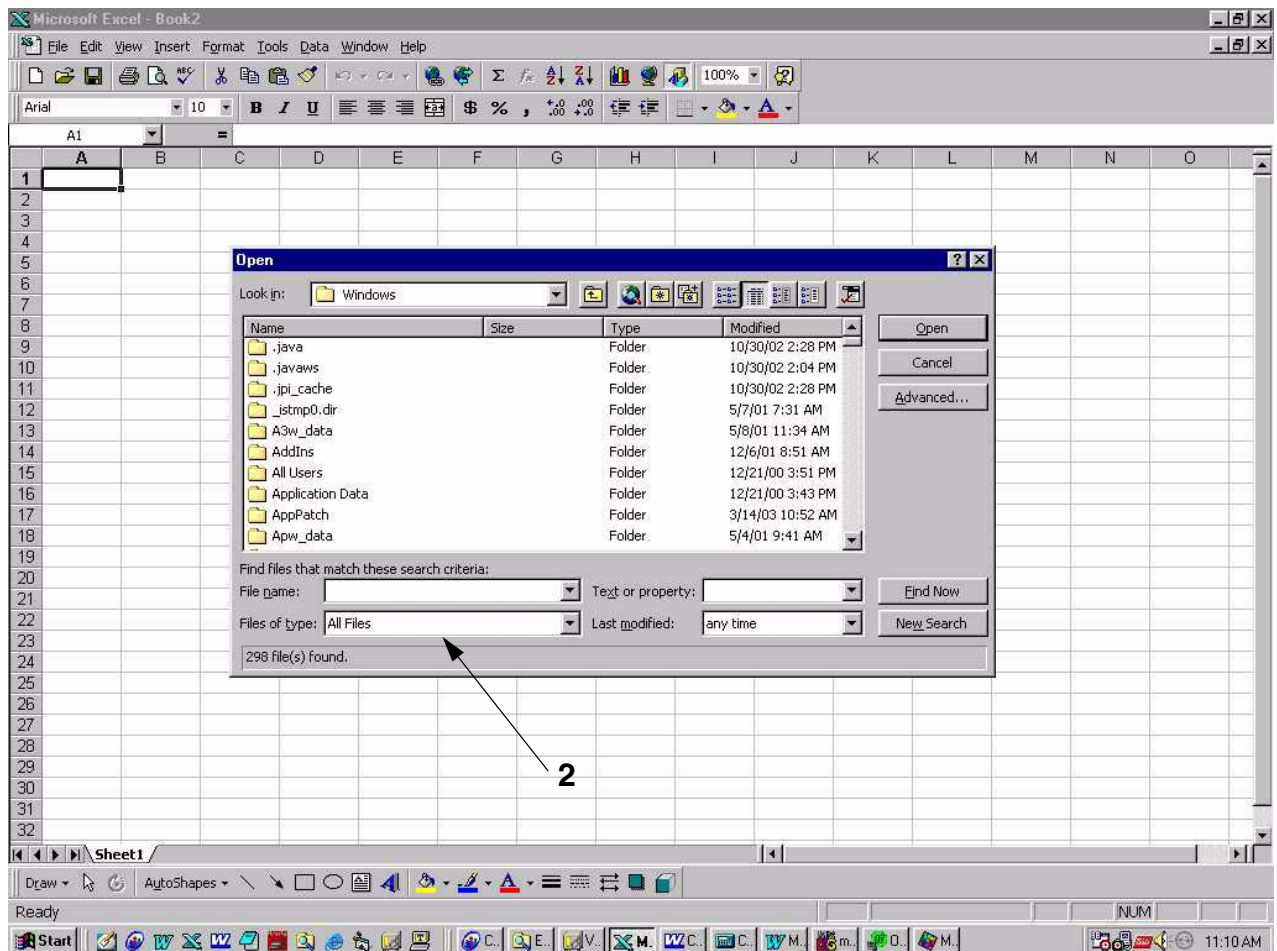

FIG. 2. Excel Window
2. Change file type to All Files (*.*). See FIG. 2.